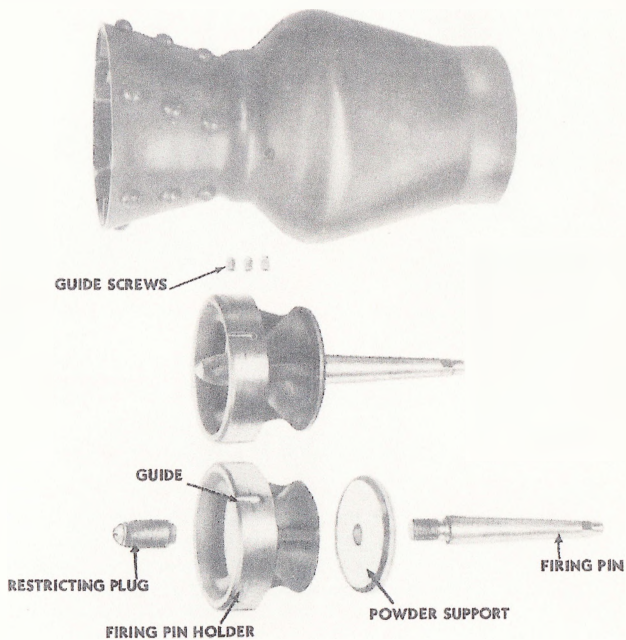

Fig. 25. Internal components of reaction chamber.
d. The powder support bears against front face of holder and is held in place by the firing pin which threads into holder. Firing pin is provided with a hexagon on the firing end for ease in assembly and disassembly (fig. 25).